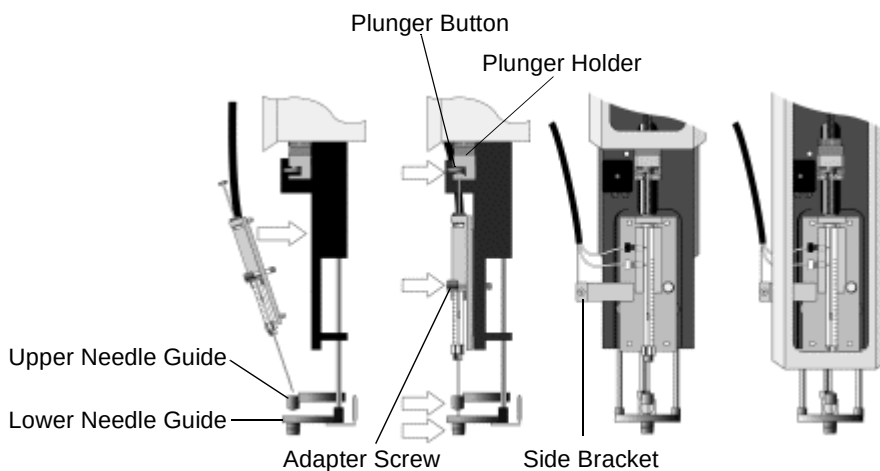

Figure 2-33 Installing the Sideport Syringe Adapter
6. Move the syringe, installed in the syringe adapter, partially into the injection unit. Guide the needle first into the upper needle guide and then into the lower needle guide (Figure 2-33).